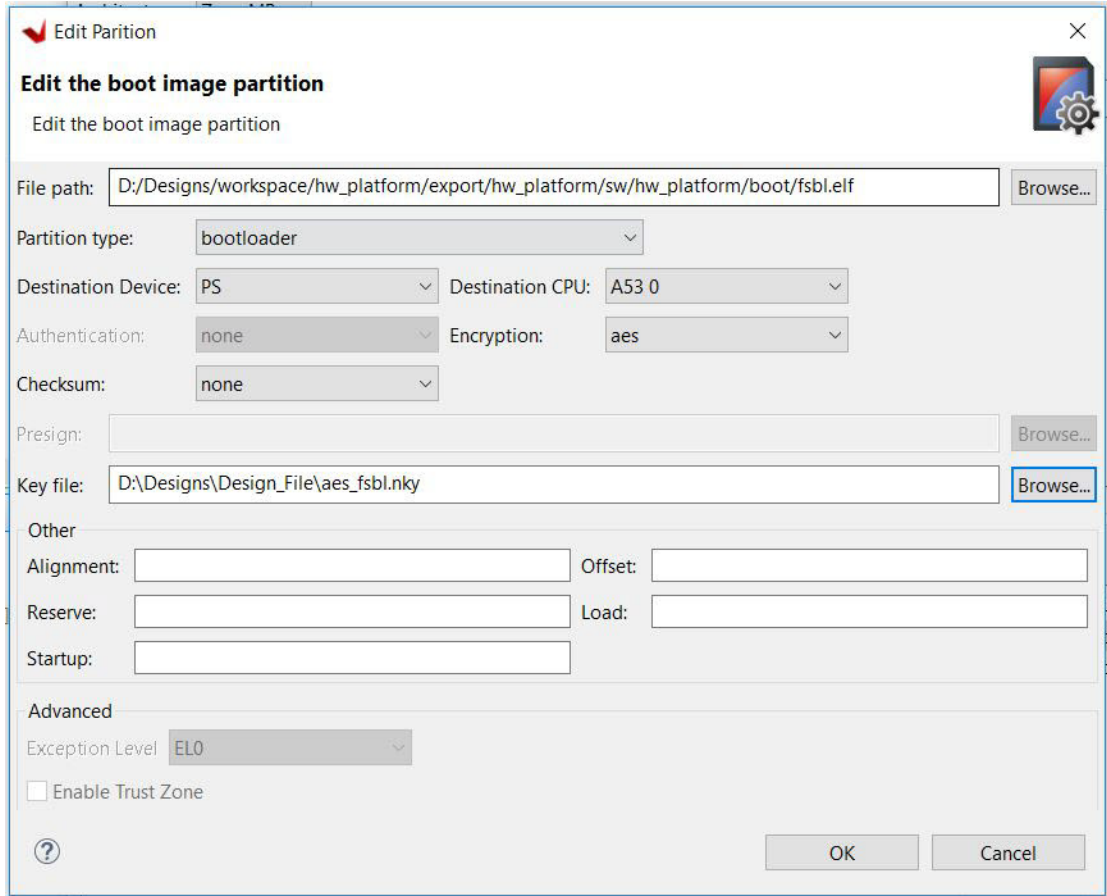

Figure 18: Encryption for fsbl Boot Image
- Double-click `fsbl` to open edit partition window and change the encrypted option to AES, and browse to `aes_fsbl.nky` for key file (Figure 18). Click **OK**.